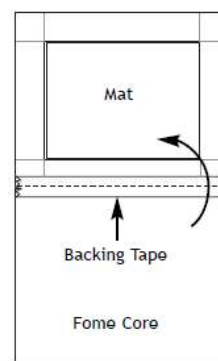

fig.3
3. Place the mat on top of the Fome Core then open it upwards as if you were opening a book, now the mat will be face down and positioned at the top of the Fome Core backing - see fig. 3.
4. Using FrameCo Backing Tape make a hinge between the two boards - see fig.3. For valuable artworks the acid free Gummed Linen Tape #17045 is more suited for conservation framing.